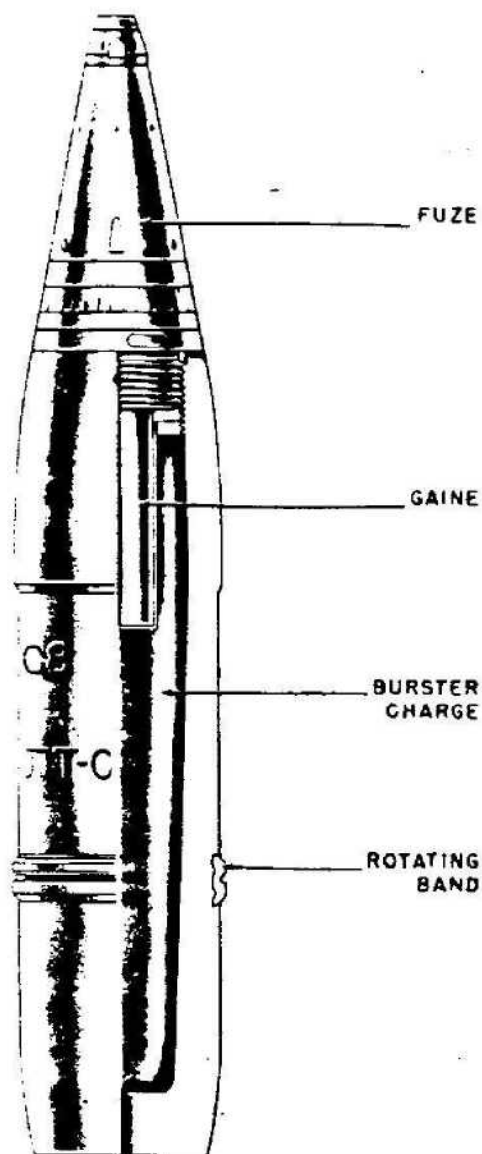

Figure 416—H. E. Projectile for Field Gun, 76.5-mm,
**GERMAN NOMENCLATURE:** 7.65-cm Sprgr. (Dopp. Z.) 276 (j). (See fig. 416.)